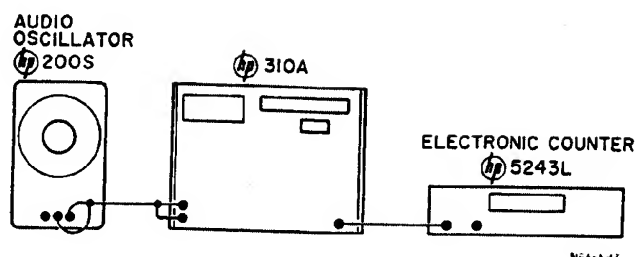

Figure 5-1. Frequency and Sensitivity Check
a. Connect equipment as shown in Figure 5-1.
c. Disconnect INPUT and connect equipment as shown in Figure 5-1 (the audio oscillator is unnecessary).
- b. Connect instruments as shown in Figure 5-1.